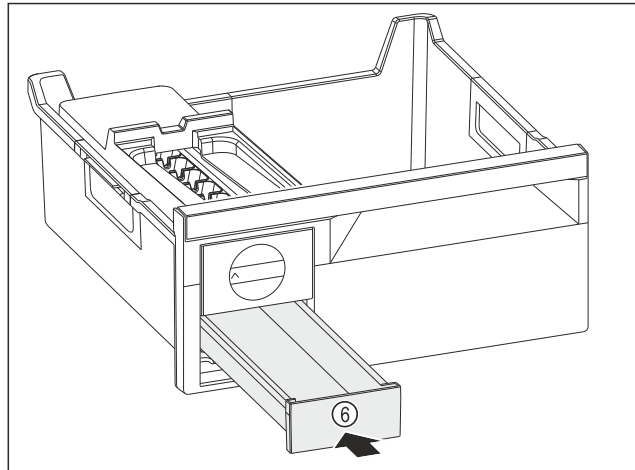

Fig. 82
- ▶ Insert the ice cube drawer Fig. 82 (6).